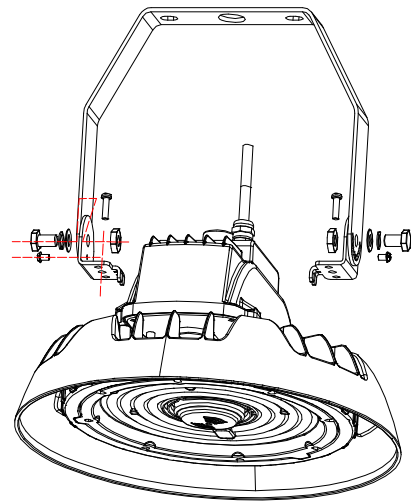

Fig. 5
2. Install the yoke to the fixture. See Fig. 5.